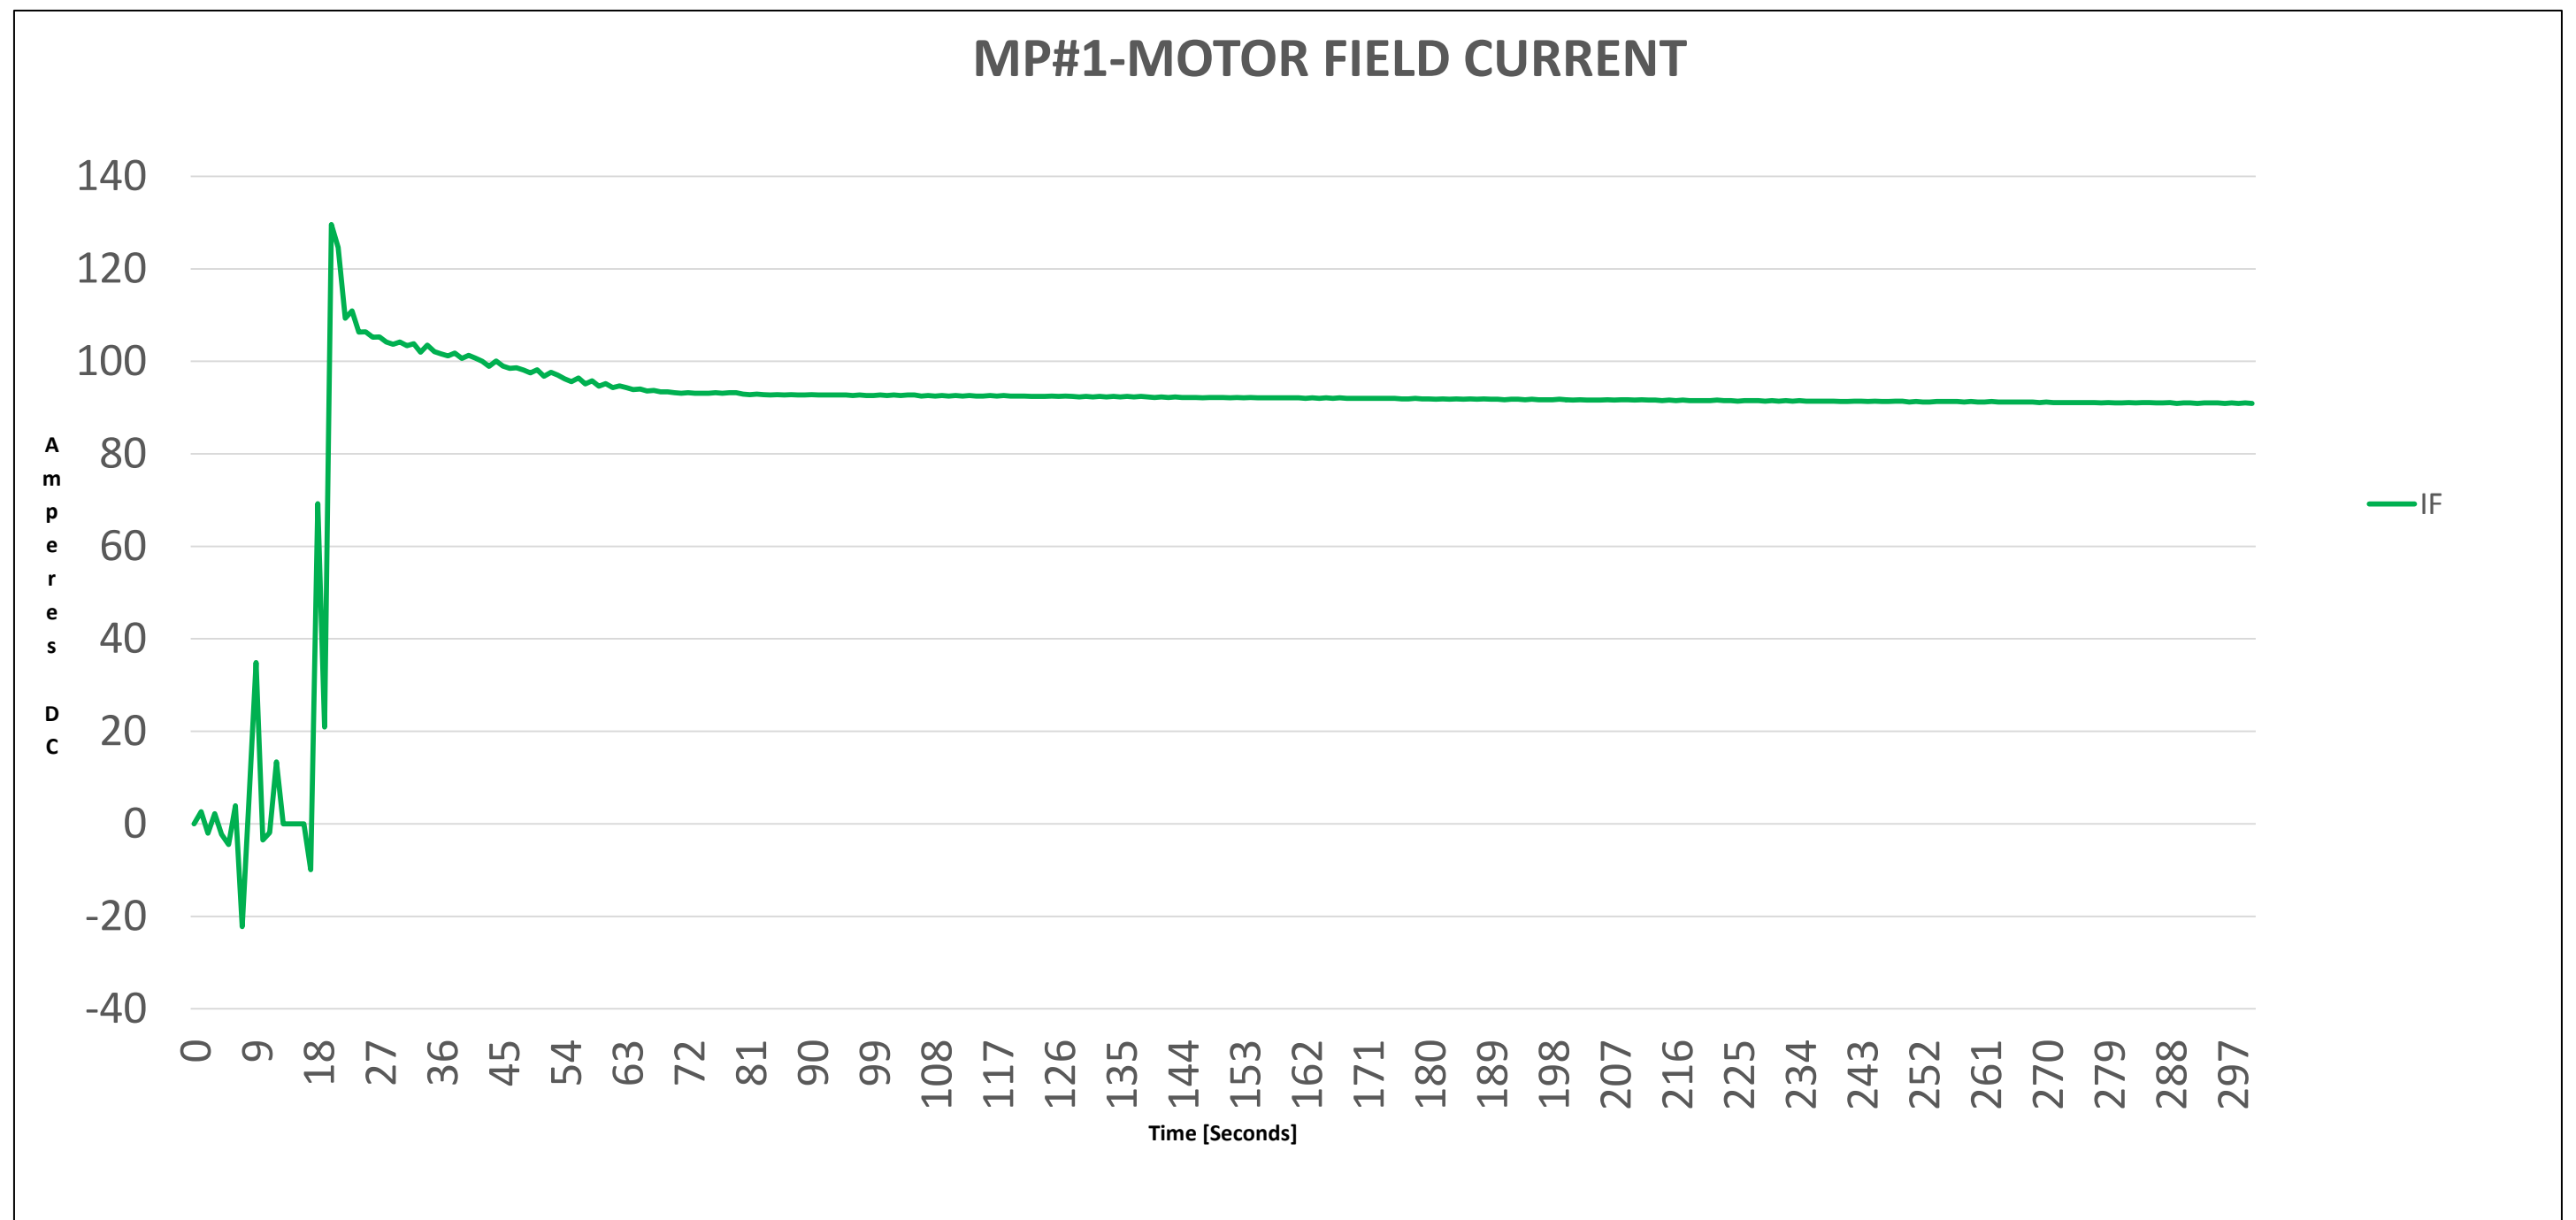

Figure 13-Main Dewatering Pump # 1 Motor Field Current
- Field undercurrent set to 65% and field overcurrent set to 150% of recorded running amps as depicted in Figures 13, 14 and 15. Field current protection will only be employed 5 seconds after excitation has been applied. Time delay set for 1 second.
- Field undercurrent warning set to 70% and field overcurrent warning set to 135% of recorded running amps depicted in Figures 13, 14 and 15. Field under/over current warning will only be employed 5 seconds after excitation has been applied. Time delay set for 1 second.